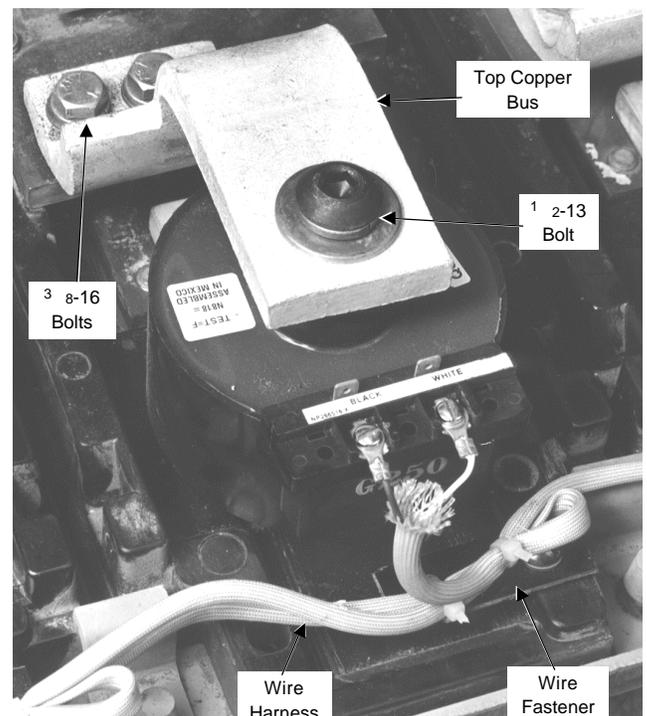

Figure 20. CT installation completed..
2. Fasten the three small insulated wire fasteners to the back frame with the 1 4-20 x $1\frac{3}{4}$ " screws provided, as shown in Figure 20. One fastener is mounted under each CT.